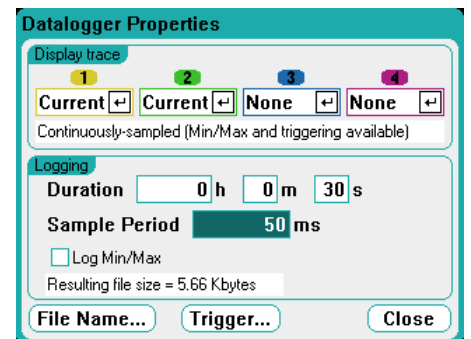

Figure 10 – Datalogger Properties
7. Press the "Properties" key to set up the data logger (see Figure 10).